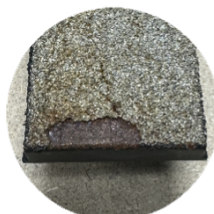

Figure 4:
- ☐ Inspect the Wedge GritLock® for any of the following issues: clogged surfaces (Figures 1 & 2), cracking (Figure 3), flaking (Figure 4), or excessive wear of the coating (Figure 5). Clean the gripper as needed or remove it from service if any of these conditions are present. While this list is not exhaustive, any Wedge Gripper with questionable integrity must be taken out of service or reviewed with assistance from USA Industries LLC.